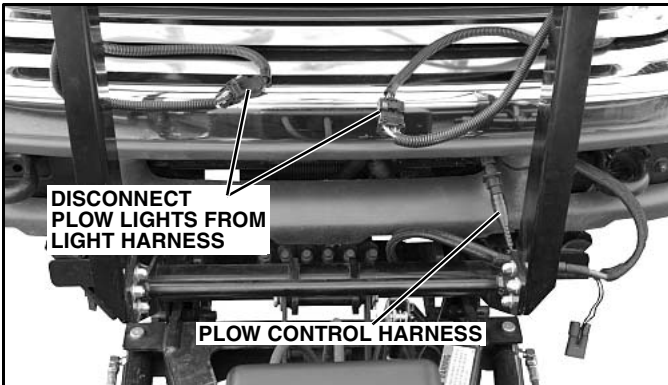

Figure 1-8
2. Disconnect the plow lights from the truck light harness (See Figure 1-8). Disconnect the plow control harness and replace the protective cap.